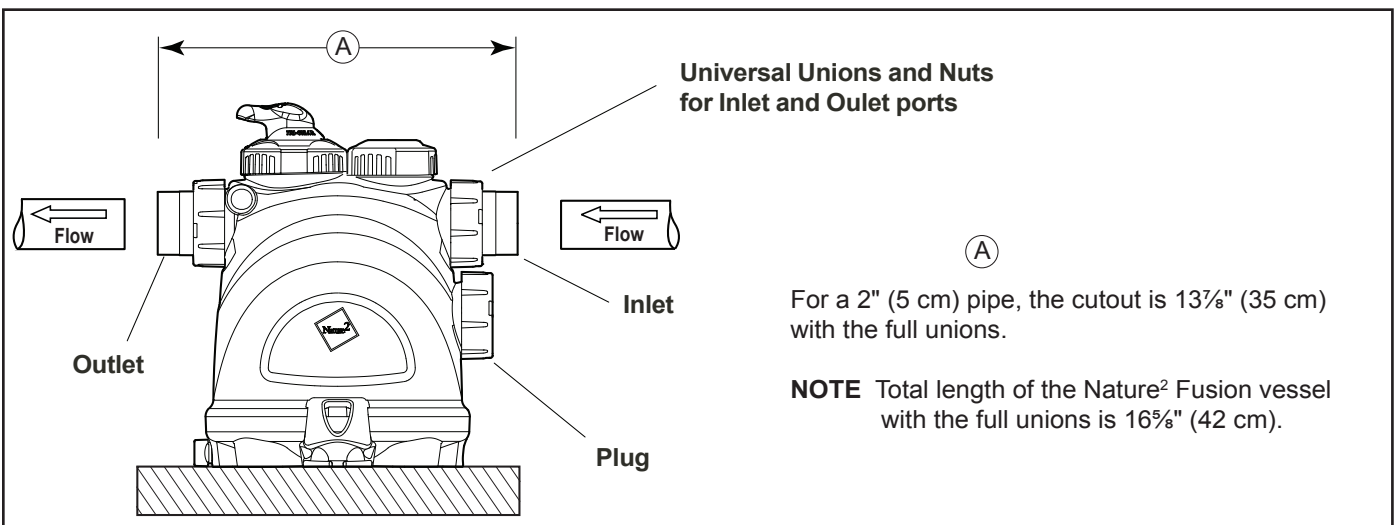

Figure 4. Pipe Cutout
4. Cut out a 13⁷/₈" (35 cm) section of the 2" (or 5 cm) pipe to insert the vessel (see Figure 4).